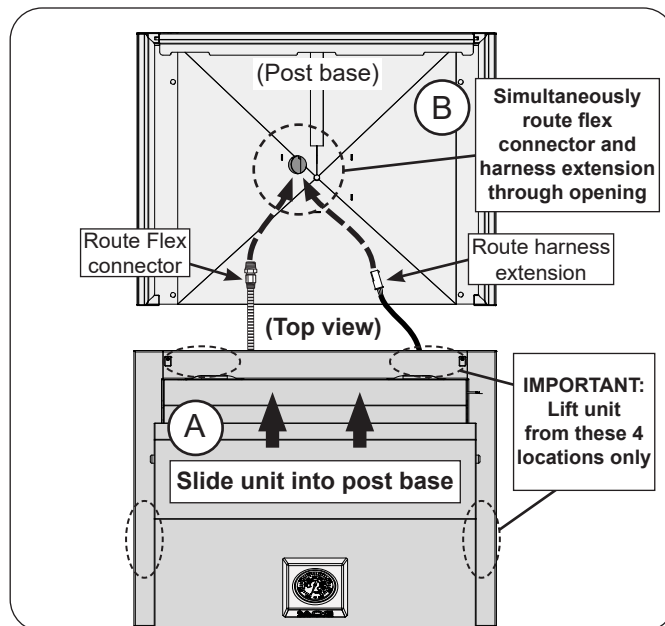

Fig. 19-1 Install grill to post base
- Be sure to simultaneously route the flex connector and wire harness extension (if applicable) down through the large circular opening on the upper portion of the post base. See Fig. 19-1, A and B.